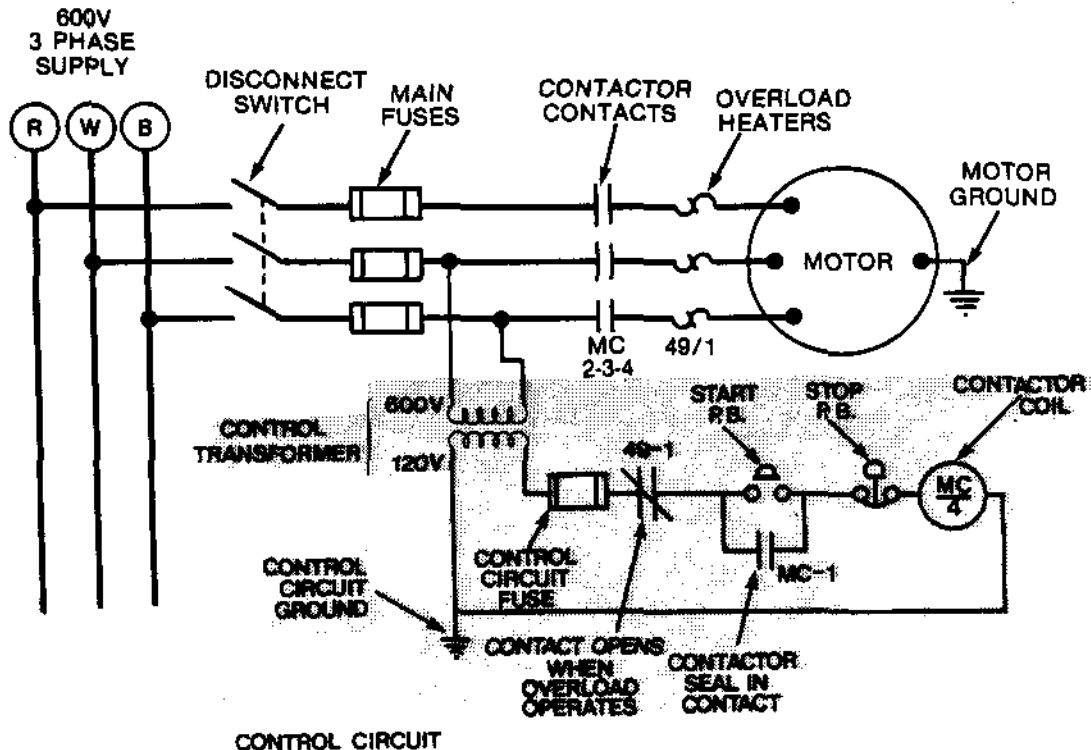

Figure 6: Basic Motor Control Circuit Controlled by a Contactor.
Figure 6 shows the basic power and control circuits using a contactor. Control circuits are shown in the de-energized state. The control circuit has the following features:
5. Given control circuits similar to that shown in Figures 6 and 7, name and explain the function of each component. (Sections 4.2.1 and 4.2.2)